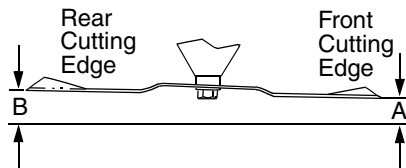

Figure 31
3. Refer to Figure 31. Measure and record the distance from the front cutting edge to the ground (measurement A), and from the rear cutting edge to the ground (measurement B), for both outer blades. The front edge of each blade (measurement A) should be lower than its back edge (measurement B) by approximately 1/8 inch.